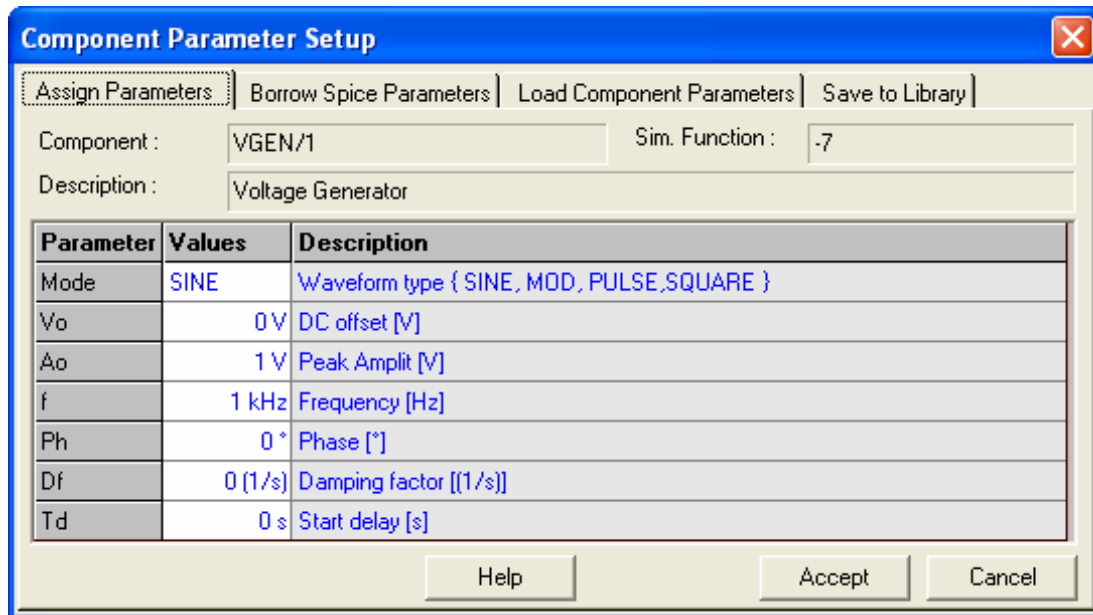

Fig. 6.9
1. We will now define the amplitude of the generator signal. Right click and select the function tool  **Component Properties** and then the option tool  **Change Simulation Parameter**, click the input generator **VGEN**, the component parameter set up window appears as shown in Fig. 6-9.